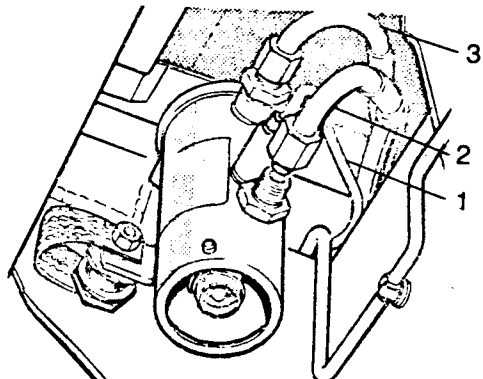

Fig C4.3
- (2) Refer to Fig C4.3. Disconnect the fuel pump electric lead (1) at the snap connector.
- (3) Disconnect the lower fuel pipe (2) (inlet) and cover the end to prevent loss of fuel.